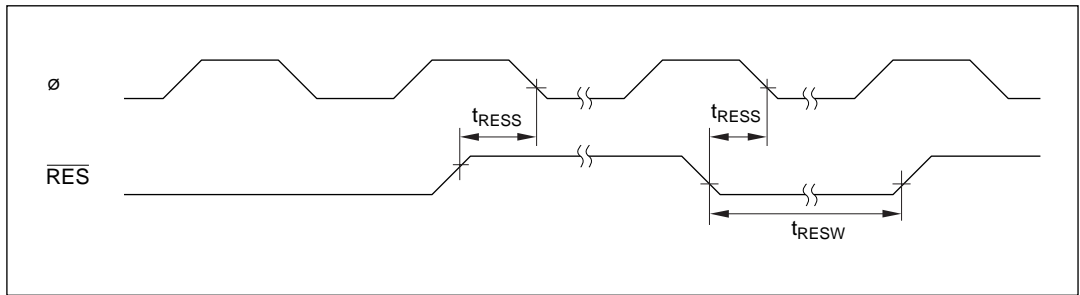

Figure 16-6 Reset Input Timing
16.3.2 Control Signal Timing	Figures 16-6 to 16-9